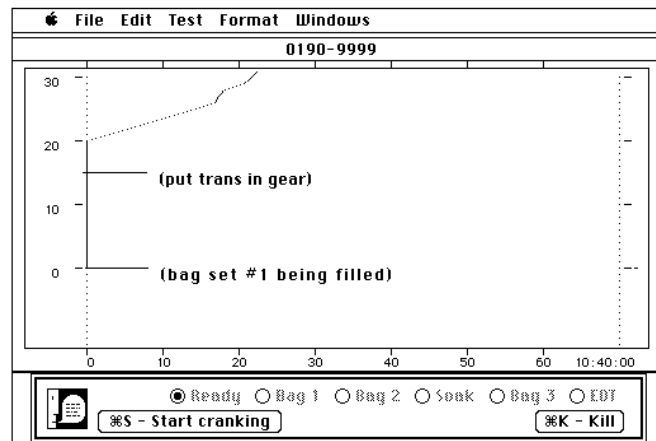

Figure 10
- 304 Before starting the engine, ensure that the "Ready" indicator on the bottom of the VDA screen is on. See Figure 10.